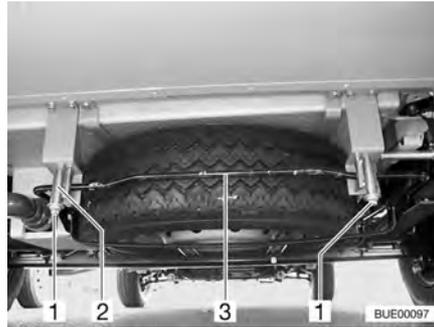

Fig. 264 Spare wheel support (basket)
- Loosen the nuts (Fig. 264,1) on the right and left rear hooks (Fig. 264,2) of the spare wheel support.
- Pull the bar (Fig. 264,3) slightly upwards. At the same time, pull down the hooks and unhook the bar.